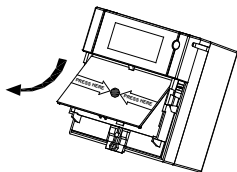

Fig. 4: Operating element
1. Remove the operating element (see Fig.4).